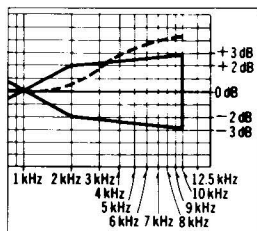
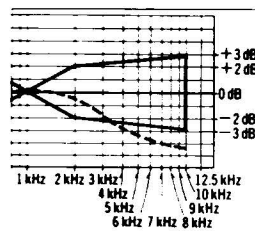
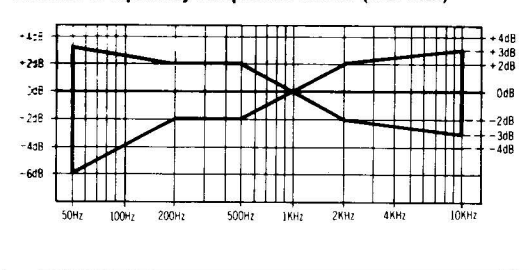

Fig. 12
Fig. 13
Fig. 10
6. Playback the signals recorded in step 5, and check if the frequency response curve is within the limits shown in the overall frequency response chart for normal tapes (fig. 10).
When the curve exceeds the overall specified frequency response chart (fig. 10) as shown in fig. 12.
- 2) Repeat steps 5 and 6 for confirmation (Proceed to steps 7, 8 and 9 if the curve is now within the charted specifications as shown fig. 10.)
- 3) If the curve still exceeds the specifications (fig. 10), increase bias current further and repeat steps 5 and 6.
When the curve falls below the overall specified frequency response chart (fig. 10) as shown in fig. 13.
- 3) If the curve still falls below the charted specifications (fig. 10), reduce bias current further and repeat steps 5 and 6.